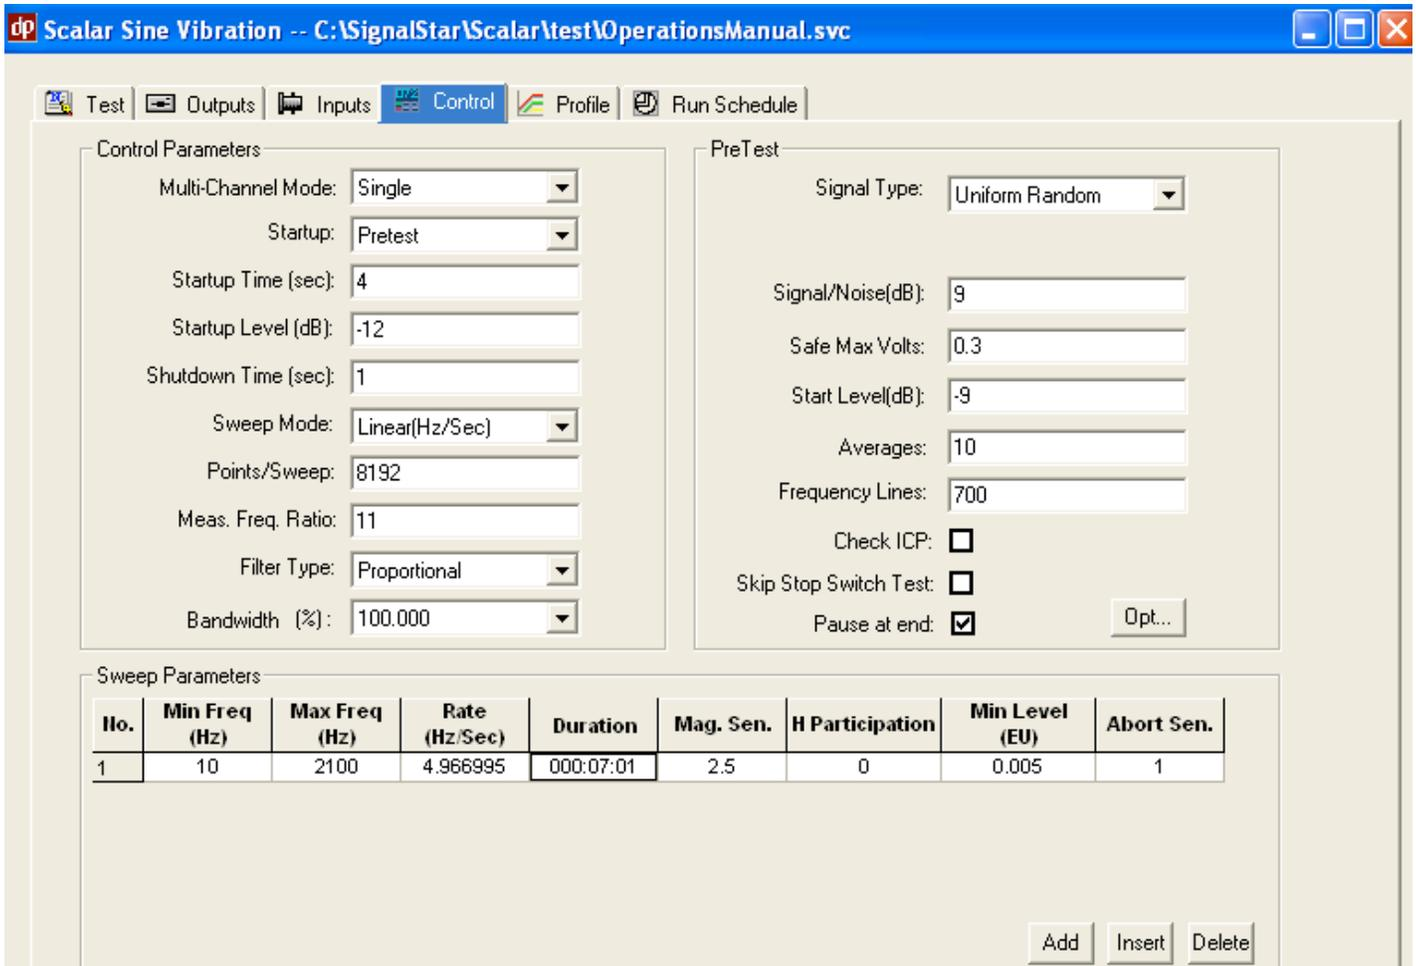

Figure 4-12: Screenshot of the Control portion of the Test Setup menu
- 11) Click the “CONTROL” tab and make the following changes: change the “Sweep Mode” to “Linear (Hz/sec)”, set “Points/Sweep” to “8192”, and set “Meas. Freq. Ratio” to “11” to obtain the maximum sampling rate. See Figure 4-12.